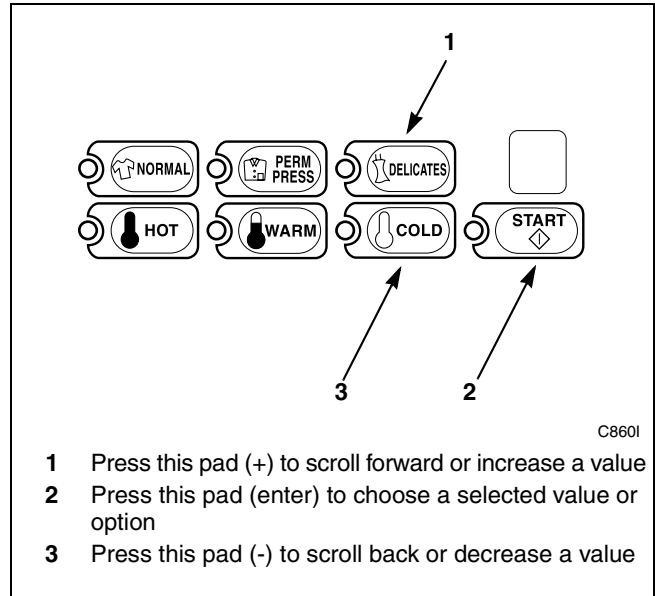

Figure 131
5. Press the DELICATES (+) or the COLD (-) keypad to increase or decrease the current number of minutes displayed in the VFD to the desired number of minutes. Refer to *Figure 131*.